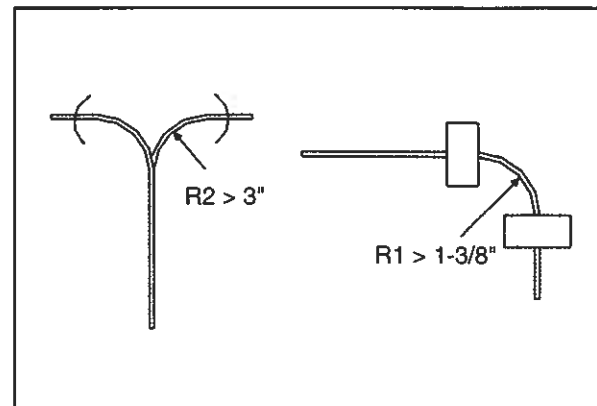

Figure 7. Bending radii.
6. All cables must be fixed, but also allow for the maximum machine travel movements. **Figure 7** shows the recommended minimum radius that should be used for bending the scale cable.